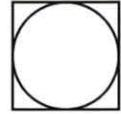

Figure 24. Instrument Tag
5. Determine the type of device indicated by the tag in figure 24.